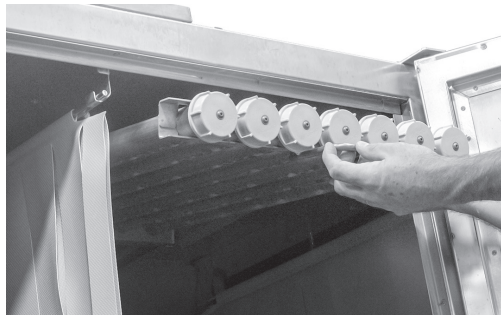

Fig. 3
- All upper and lower wash arms must be properly installed in each section. Ensure all wash arm end caps are properly installed and fully tightened (Figs 3 & 4).